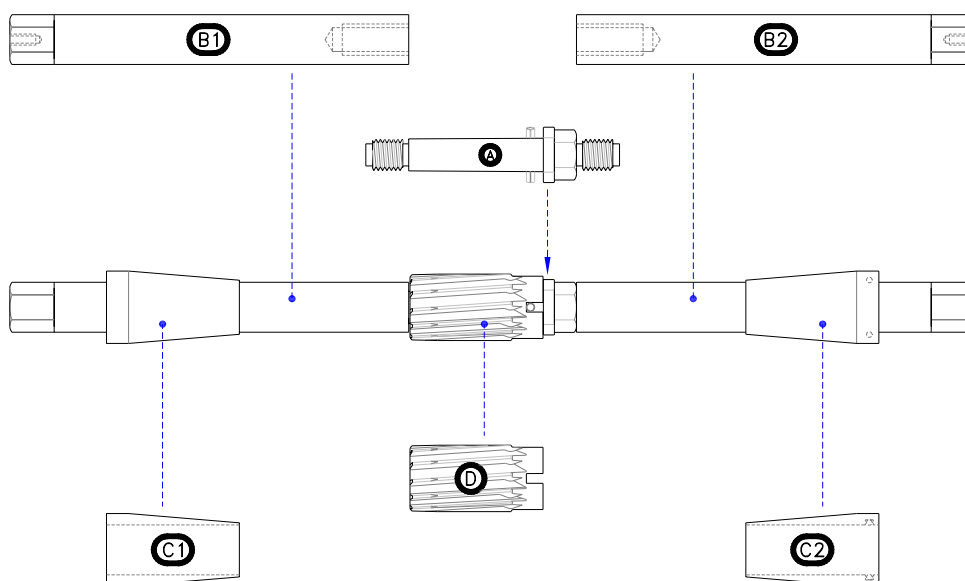

Fig.8
<p>5b: Then screw the arbor (A) into threaded hole of the pilot shaft (B1) and rotate the arbor clockwise until the frontal face of the reamer is fully seated on the corresponding face of the pilot shaft. Select pilot shaft length according to spacing between the bushings being cut. Refer to fig.8 for assembled view of tool.</p>